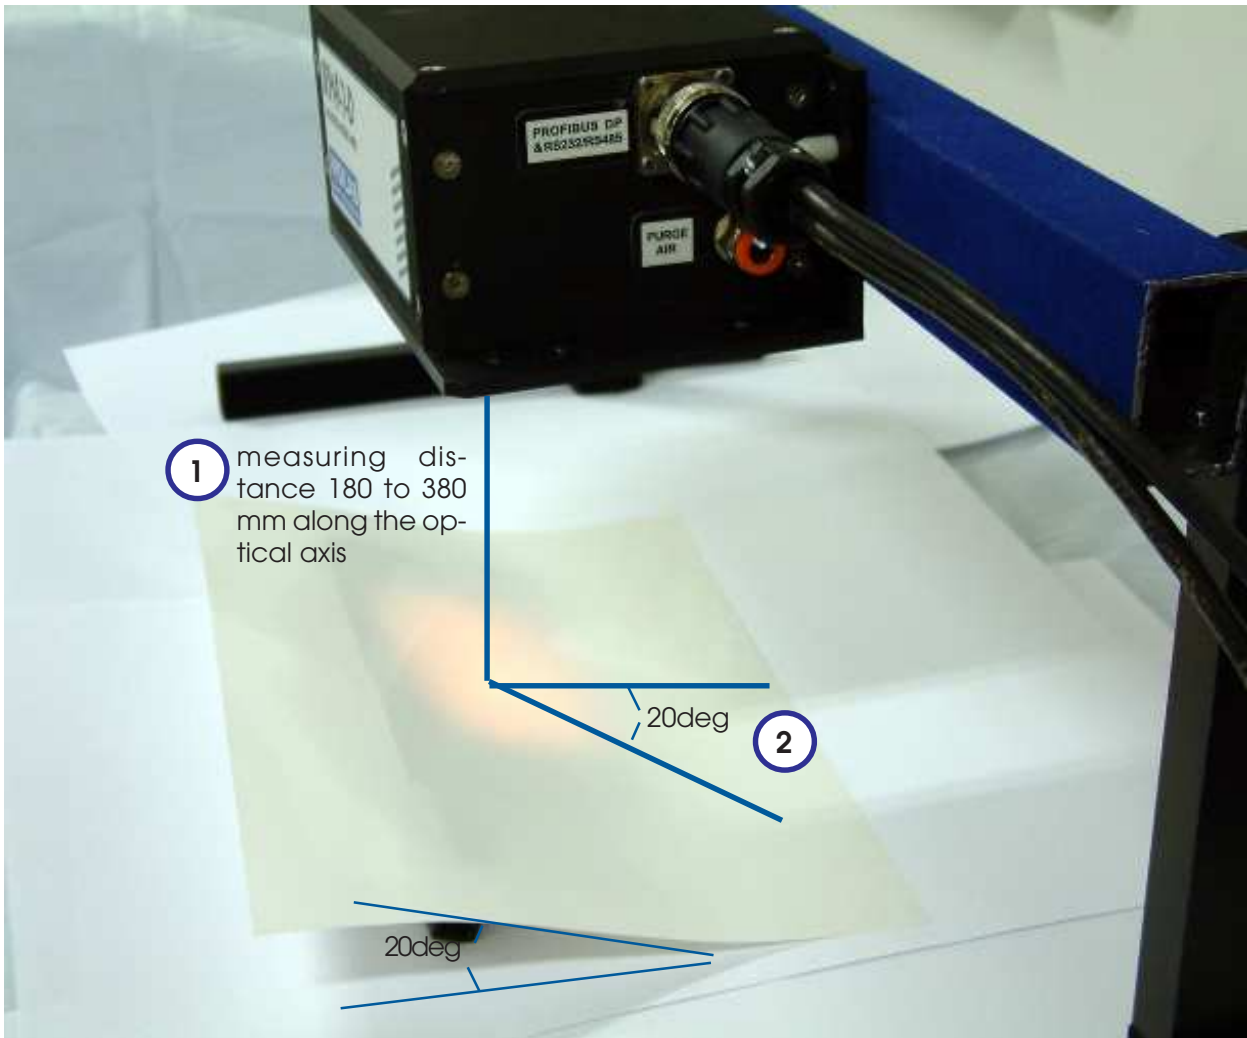

Figure 1. Measuring glossy papers, off-line or on-line. Numbers refer to the text in the following.
2. The angle is determined as a rotation of the meter around its main axis, in the direction indicated in Fig. 1. IRMA-7 model D Rev 5K meters can accept a rotation to negative direction too but earlier revisions do not. Stick to the tilt once adopted.